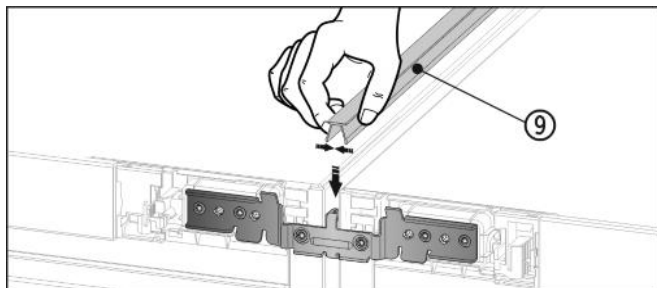

Fig. 13
- On the top press the short cover strip Fig. 13 (9) into the horizontal gap.